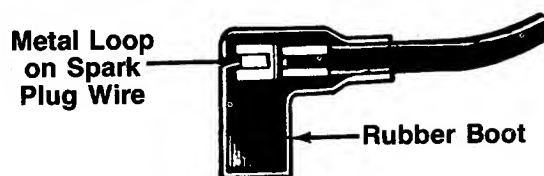

FIGURE 14.
1. Attach spark plug wire to spark plug. If unit is equipped with a rubber boot over the end of the spark plug wire, make certain the metal loop on the end of the spark plug wire (inside the rubber boot) is fastened securely over the metal tip on the spark plug. See figure 14.